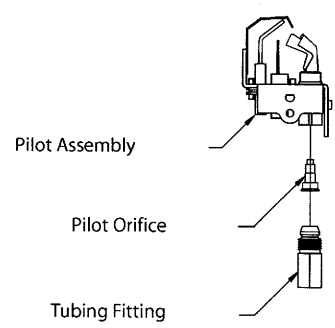

Figure 6
**REPLACEMENT OF PILOT ORIFICE (SEE FIGURE 6)**